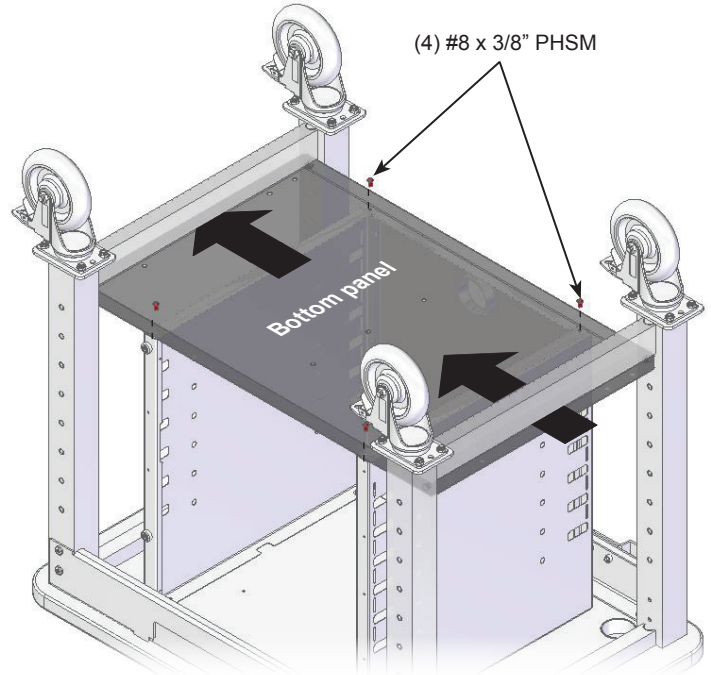

Figure 2.2
5. Slide the bottom panel (bends facing wheels) into place and attach to the legs with the previously removed screws. **Figure 2.2.**
6. Install (4) #8 x 3/8" PHSM screws into the cabinet to secure.